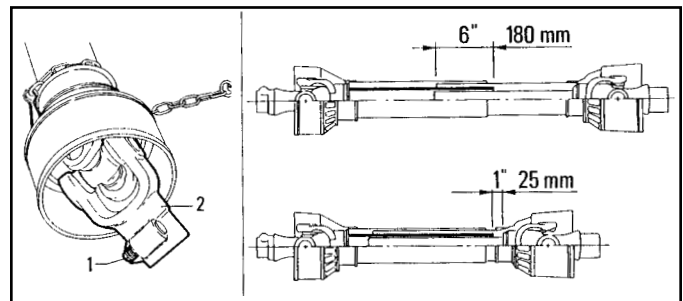

Figure 2
- Check that the driveline is the correct length Figure 2.
Driveline travel must still be about 25 mm (1 inch) in the maximum coupling (overlap) position. See Figure 2.
To achieve this condition, completely insert the latch pins and safety bolts Ref. #1 Figure 2 into the relative grooves in the PTO shafts on both the tractor and machine shafts.